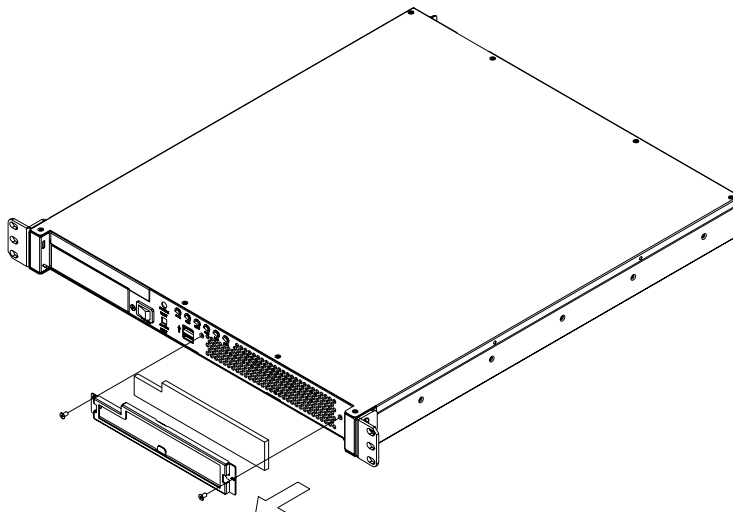

Figure 3.5 Replacing the filter
2. Unscrew the filter cover by loosening the screws. (see Figure 3.5)